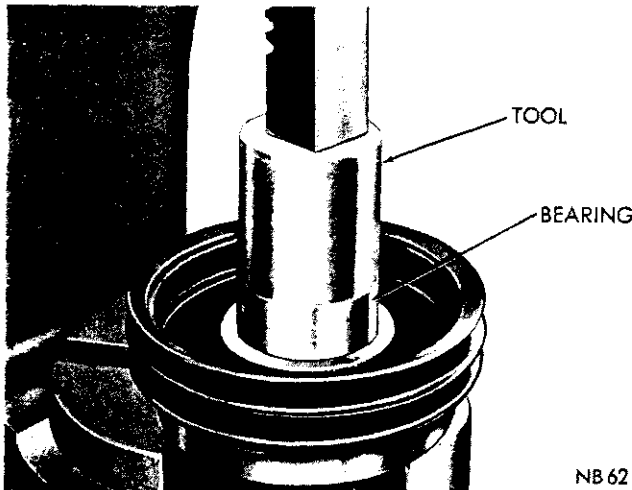

Fig. 4—Installing Bearing In Pulley Assembly (Typical)
- (1) Install pulley assembly with pulley side up on an arbor press and insert a new bearing into the bore. Install Tool C-3807 against the bearing and press into position (Fig. 4).
- (2) Install pulley assembly with pulley side facing down on Tool C-3807.
- (3) Start drive hub into the inner bearing race, and press hub into position with an arbor press.
- (4) Install bearing snap ring and hub snap ring.